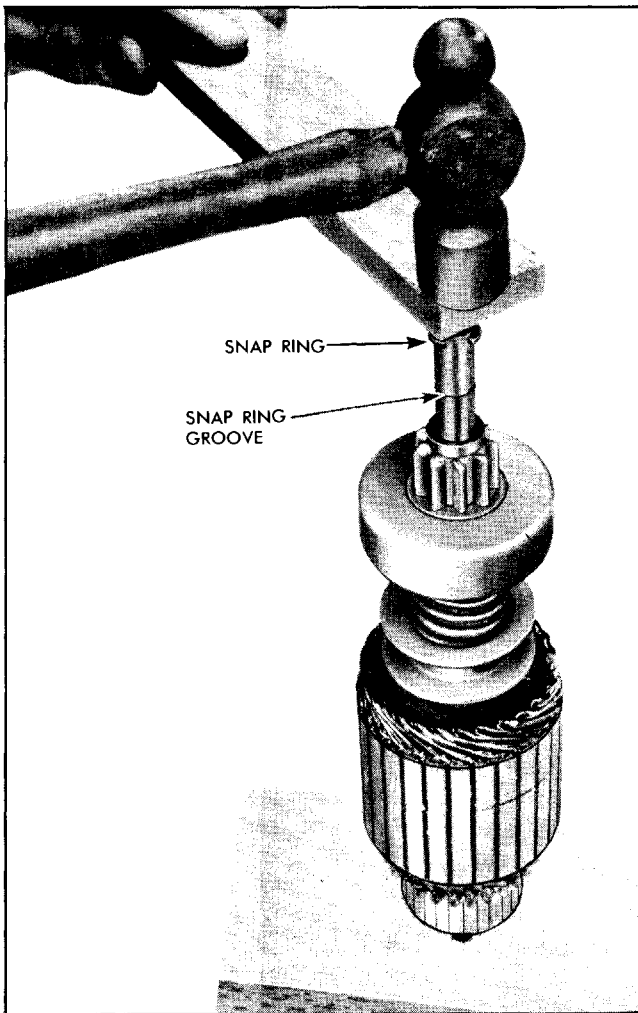

Fig. 12-34 Forcing Snap Ring Onto Armature Shaft
d. Stand armature on end on wood surface with commutator down. Position snap ring on upper end of shaft and hold in place with a block of wood. Hit wood block a blow with hammer forcing snap ring over end of shaft. Slide snap ring down into groove (Fig. 12-34).